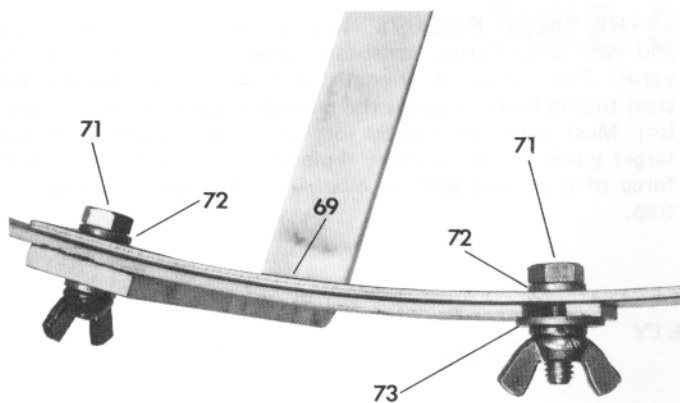

Fig. 3
- C. Thread 3 perimeter ring bolts (71), with lock washers (72) beneath heads, through inside of front perimeter ring (69). Assemble front perimeter ring to rear perimeter ring and front ring support. **NOTE:** Front and rear perimeter rings will require springing into final position. Assemble lock washers, perimeter ring washer (73) and wing nuts ( see Figs. 3 & 4).